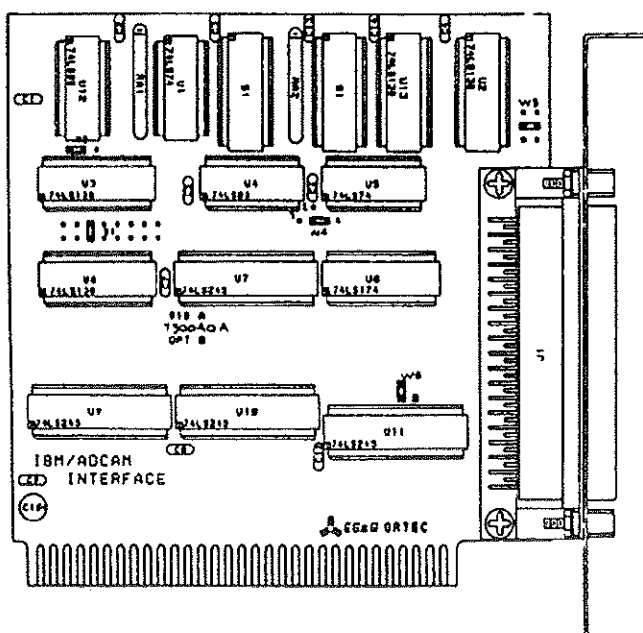

Fig. F.1. Component Assembly for 918-OPT B.
2. Connect pin 14 of the 37-pin "D" connector to pin 14 of U7. See Fig. F.1 to locate U7.
3. Connect pin 6 of U7 to pin 5 of U8. See Fig. F.1 to locate U8.